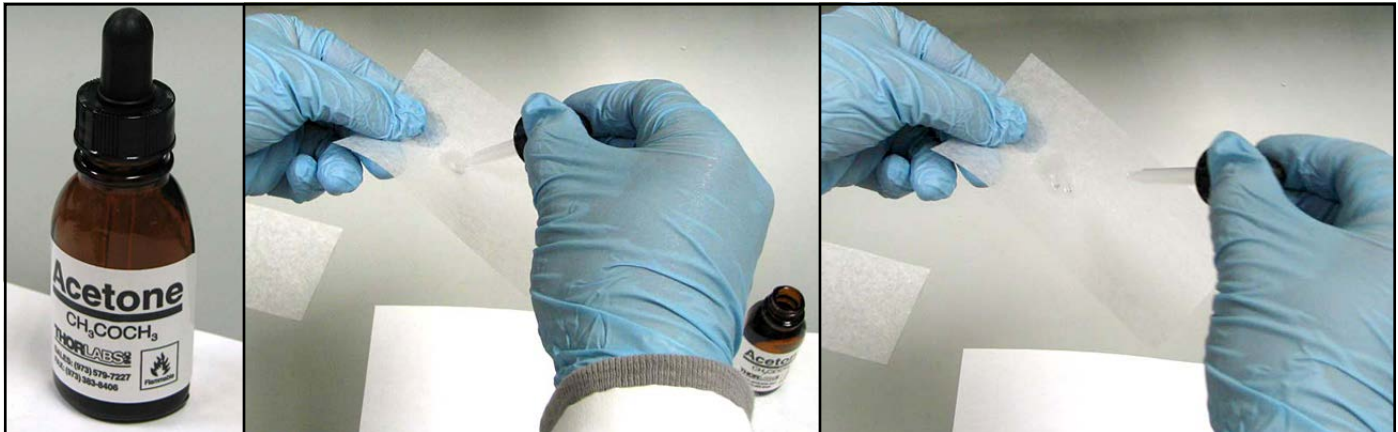

Figure 89: Using Analytical Grade Acetone
4. Using a piece of lens tissue, wet a small area with a very small amount of **analytical grade acetone** (barely wet the lens tissue). Typically, one drop of acetone will suffice. Tilt the lens tissue so that the acetone drop is absorbed by the lens paper along the length of the piece (see *Figure 89* below).
6. Using a piece of lens tissue, wet a small area with a very small amount of analytical grade acetone (barely wetting the lens tissue). Typically, one drop of acetone will suffice. Tilt the lens tissue so that the acetone drop is absorbed by the lens paper along the length of the piece (see *Figure 89* on page 106 and *Figure 95* below).